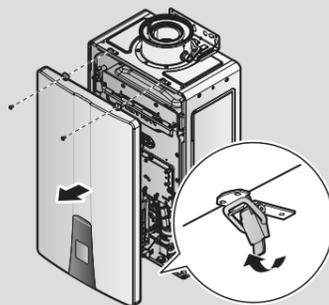

Figure 1. NHW700 Series Front cover
2. Remove the two upper screws from the front cover assembly using a Phillips head screwdriver. Then, release the toggle latch from the bottom of the front cover assembly to gain access to the internal components. See Figure 1 for illustration of the front cover on the unit.